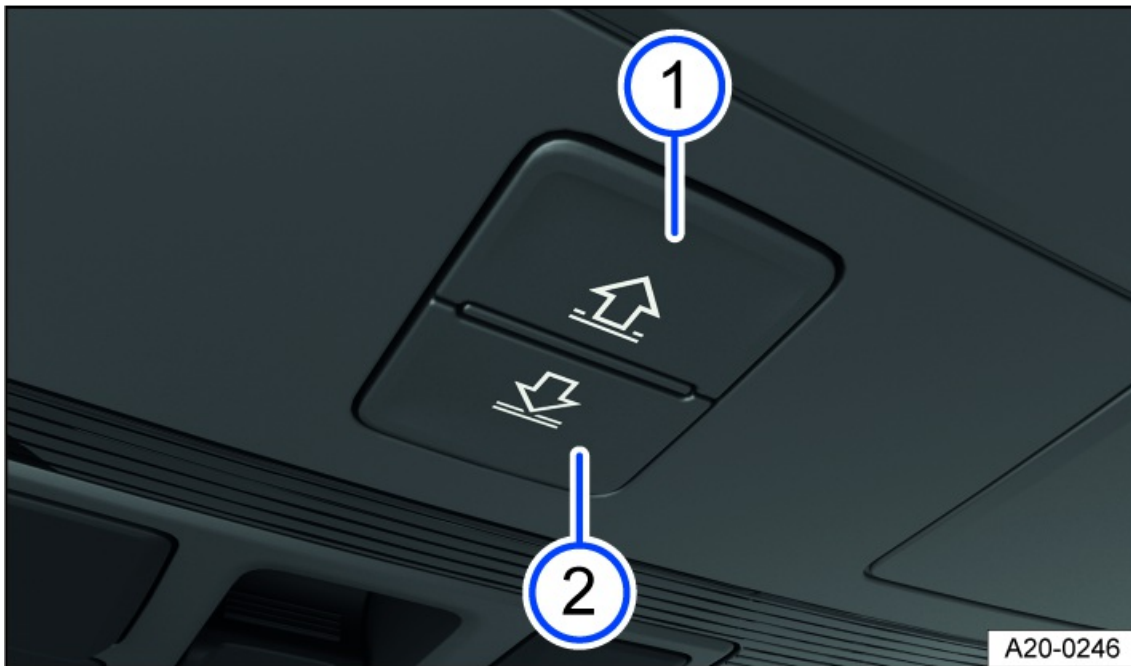

Fig. 111 In the headliner: buttons for controlling the sunshade.
The fig. 111 and ② buttons have two detents. In the first detent, the sunshade can be opened or closed either completely or partially.
1. Within approximately five seconds after pinch protection is triggered, press and hold the fig. 111 button until the sunshade is completely closed.